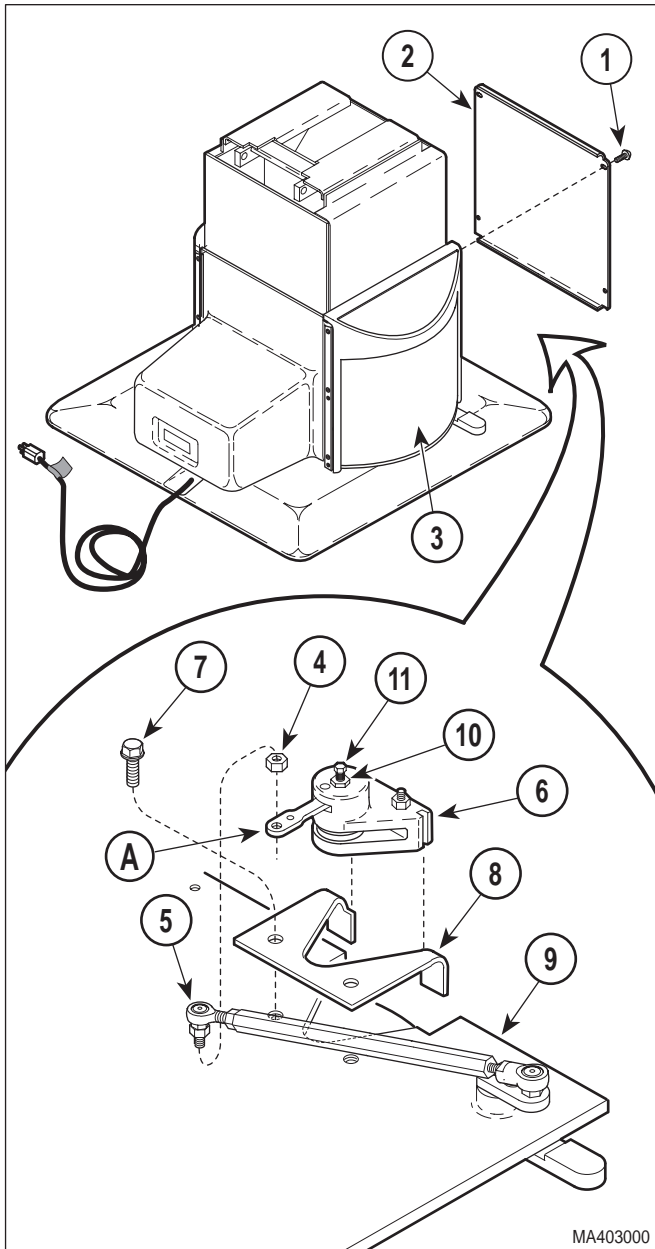

Figure 4-35. Brake Removal / Installation
- (1) Raise TABLE UP function all the way up.
- (2) Unplug table power cord from outlet.
- (3) Remove four screws (1, Figure 4-35) and front outer shroud (2) from left and right hand outer shrouds (3).
- (4) Loosen nut (4).
- (5) Unscrew rod end (5) from brake lever of brake (6).
- (6) Remove two screws (7). Then remove brake (6) and bracket (8) as an assembly from platform base weldment (9).
- (7) Remove brake (6) from bracket (8).